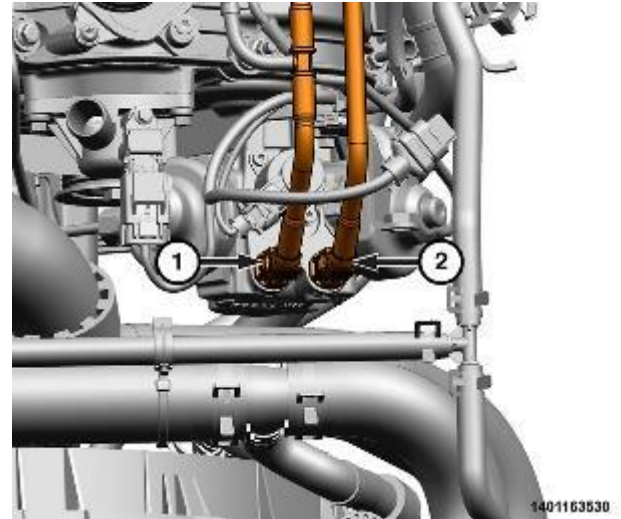

Figure 180 – Low Pressure Lines
15. Disconnect the low-pressure supply (2) and low pressure return lines (1) from the fuel injection pump (Figure 180).